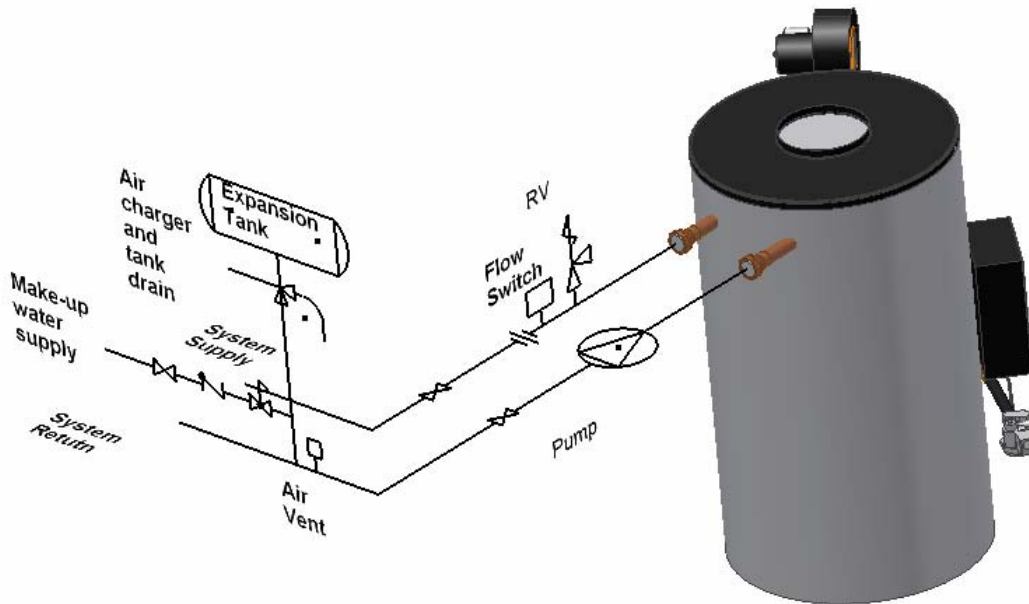

Figure 3
10. PIPING OF SYSTEM TO BOILER (FIG.3)